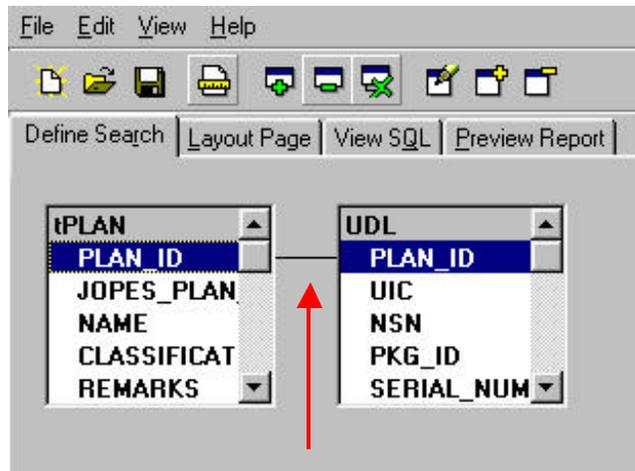

Figure 7.
Step 2: Click and hold on one field in one table and drag it on top of the other field in the other table. A bold black line will be drawn between the two fields. (see Figure 7.)